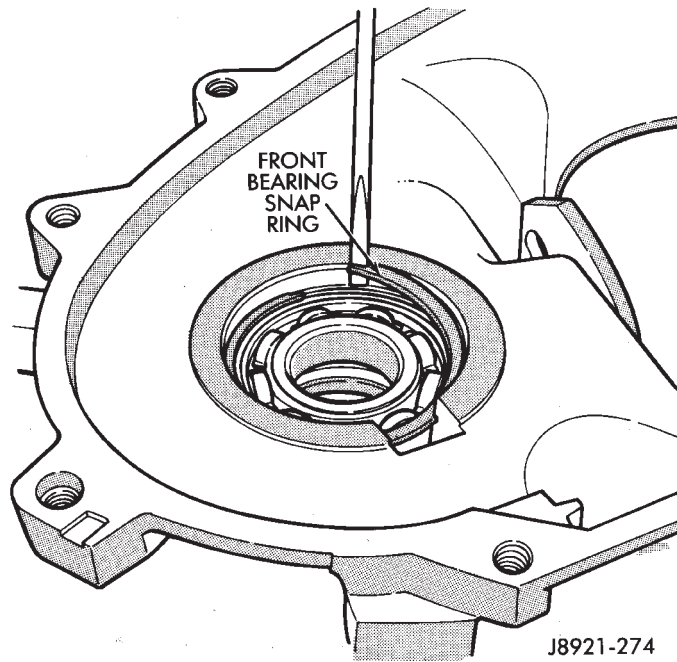

Fig. 42 Removing/Installing Front Output Shaft Front Bearing Snap Ring
(2) Remove the front output shaft, front bearing snap ring (Fig. 42).
(4) Install the front bearing snap ring (Fig. 42).